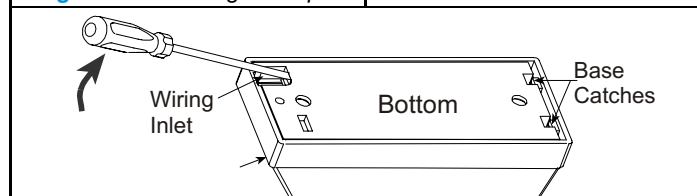

Figure 4. Separating the Cover from the Base
- B. Remove the unit's cover as shown in Figure 4.